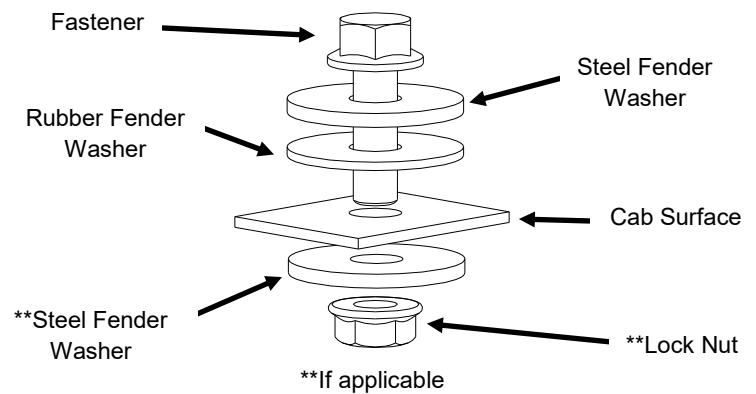

Fig. 9
9. Re-install (2) M10 ROPS bolts in rear, with the fender washers and rubber washers provided. See fig. 9. Leave loose.
10. Install (4) 5/16-18 bolts, washers, and nuts through front canopy mounting holes. (see figures 9 and 10).
11. Torque to 19 ft.-lbs. Note: (2) inner front fasteners will be used solely to plug the mounting holes if no windshield is installed. Torque (6) M10 ROPS bolts to 38 ft.-lbs. (Two bolts through the roof and four bolts for the front ROPS brackets).